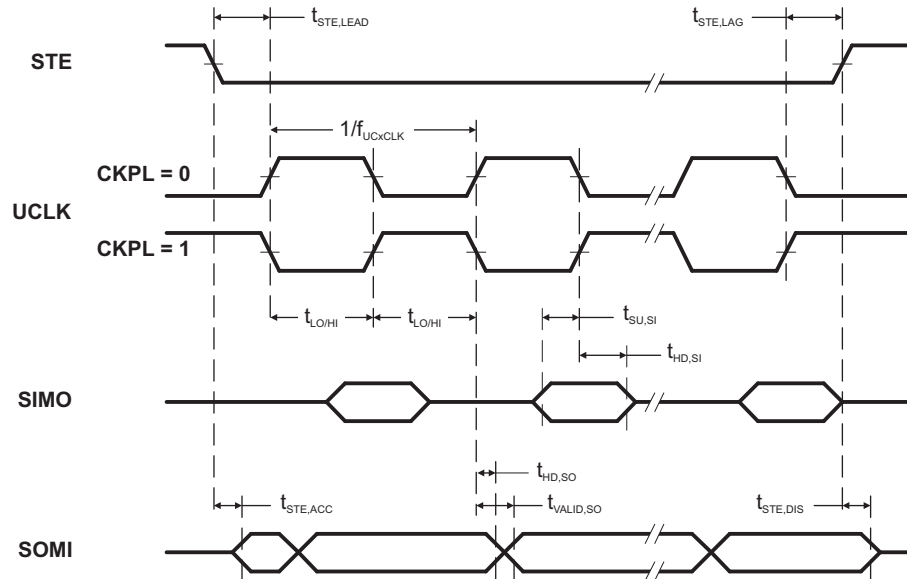

Figure 17. SPI Slave Mode, CKPH = 0
(see Note (1), Figure 17 and Figure 18)